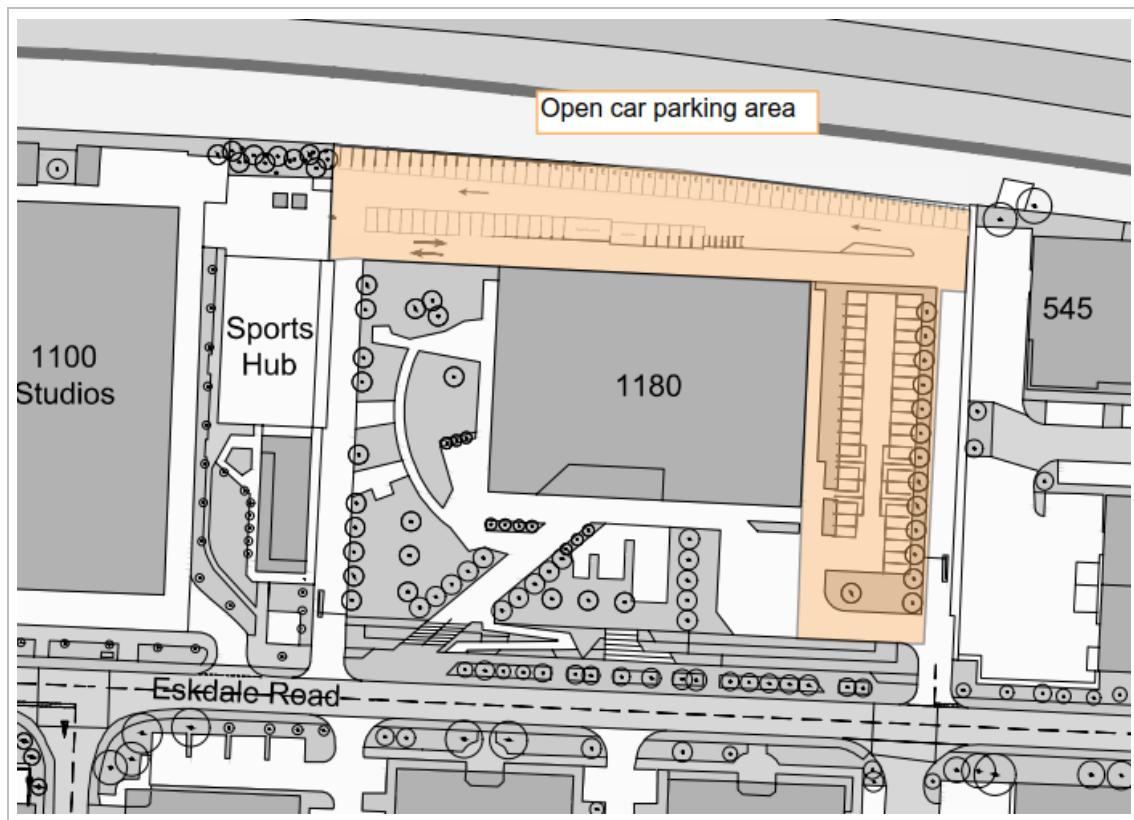

Figure 1.1 – Building 1180 – General layout and surface level/open car parking
- 1.3 The site currently forms part of the 1180 Plot and the application area comprises 54 existing car parking spaces to the north of the plot which serve Building 1180 to the south. The application site is part of the full car parking provision for Building 1180, part of the parking is below the building (undercroft) and the remainder around the building at ground level. The general arrangements for Building 1180 is presented on Figure 1.1.